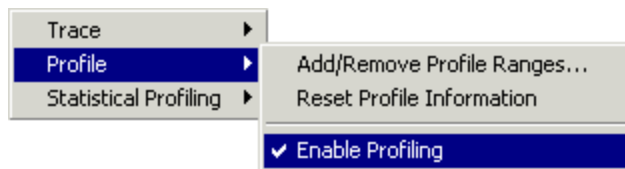

Figure 3-8. Tools Menu: Enable Profiling for a\_dot\_c
1. From the **Tools** menu, choose **Profile** and then choose **Enable Profiling**, as shown in Figure 3-8.